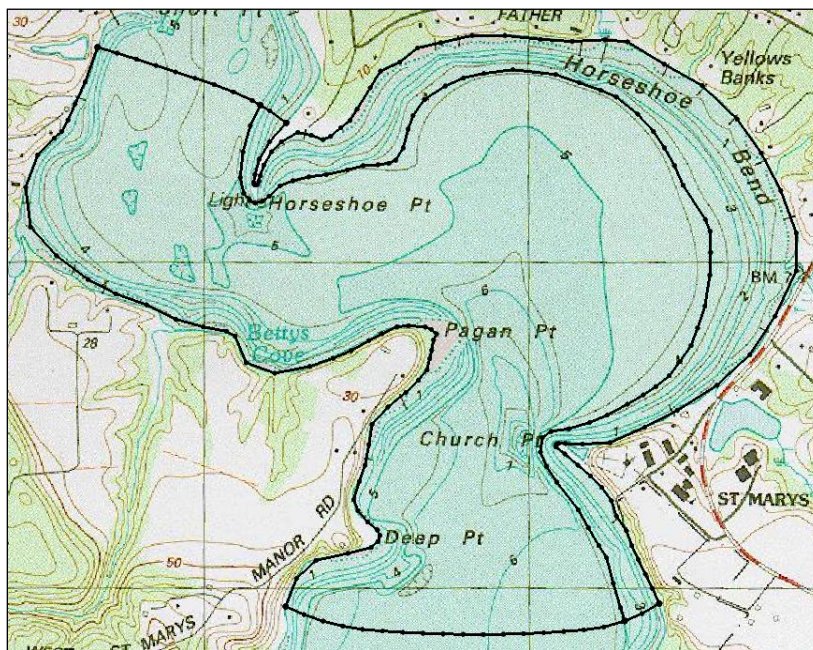

Figure 6 Arc along the left bank
5. Using the **Create Feature Arc**  tool, click out an arc that starts at the intersection of the upstream arc and the 4 meter contour and follows the 4 meter contour along the left bank as seen in Figure 6.
6. Terminate the arc by clicking on the downstream arc. (See Figure 6.)